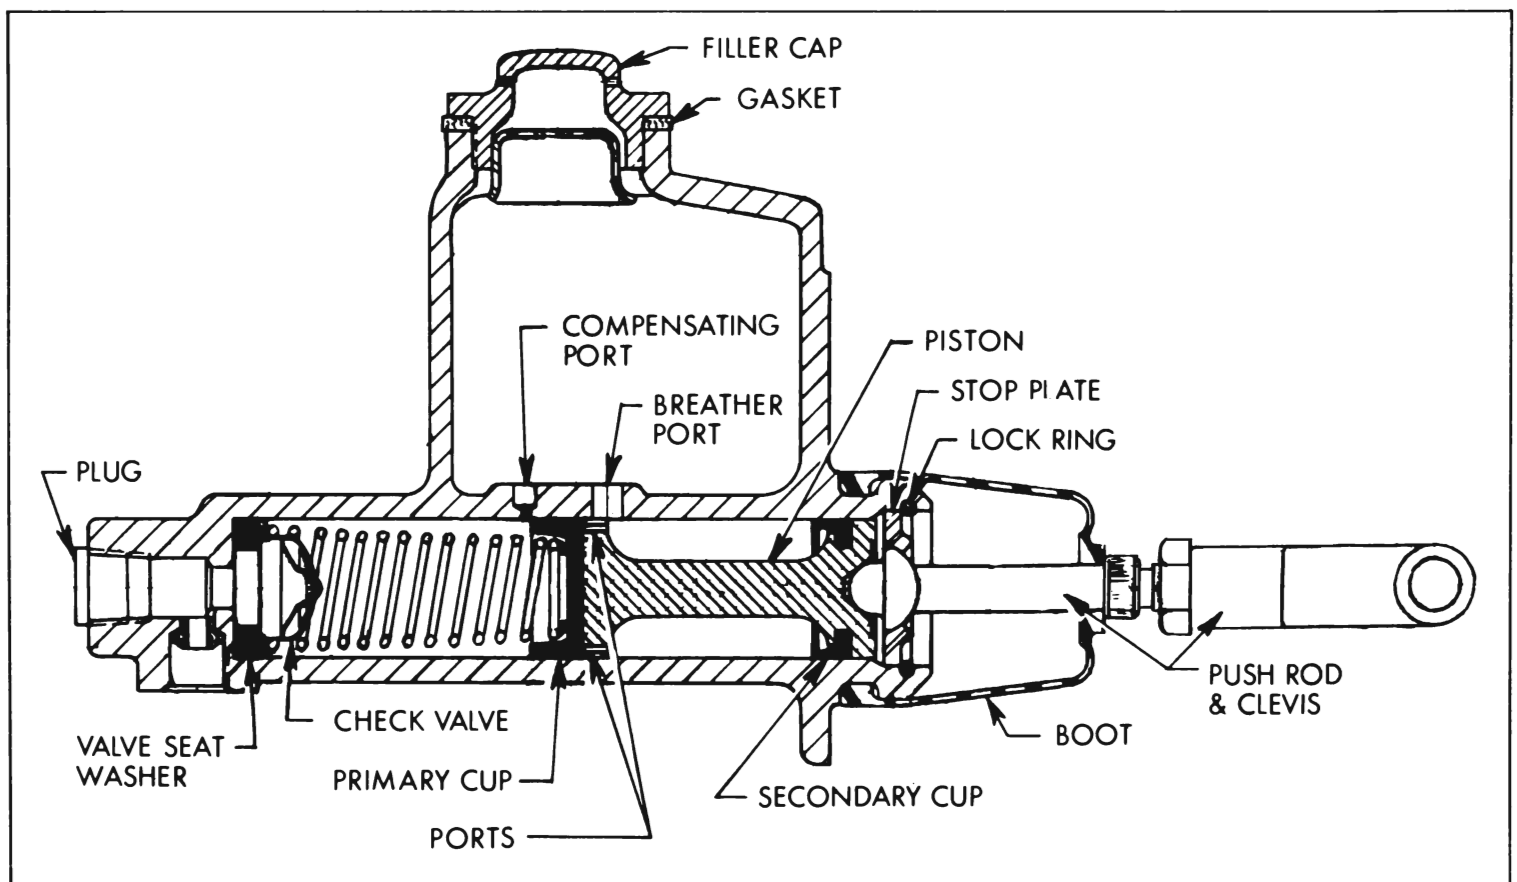

Figure 9-11—Standard Brake Master Cylinder
1. Remove rubber boot. Remove lock ring, then remove push rod and clevis with stop plate. See Figure 9-11.